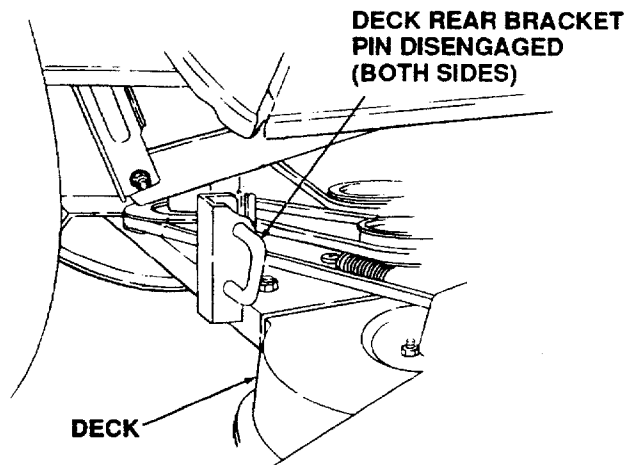

Figure 51
- If not previously accomplished, pull the deck rear bracket pins outward, turn downward and release so both spring-loaded pins are held against the outside surface of the brackets in their disengaged positions. (Refer to Figure 51.)